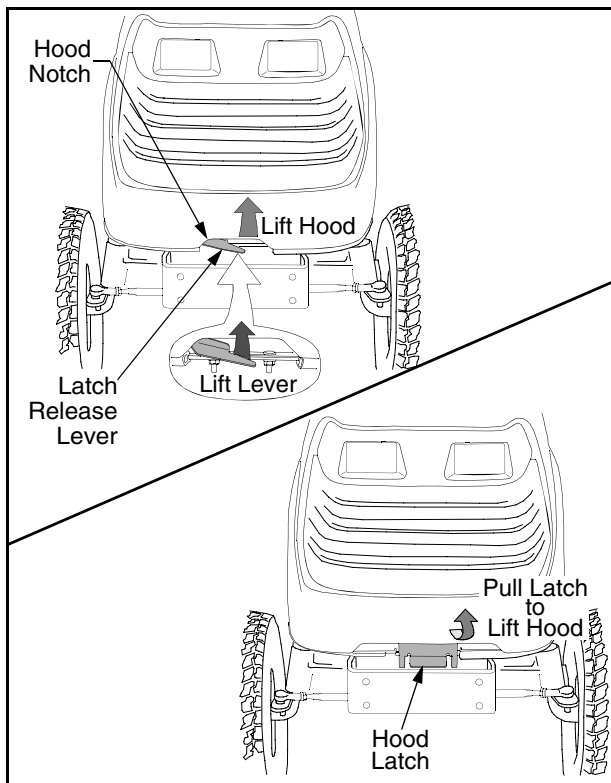

Figure 32
- **Tractors with Hood Latch Bracket.** Pull the hood latch bracket forward/upward to release the front of hood; then lift hood. See Figure 32.